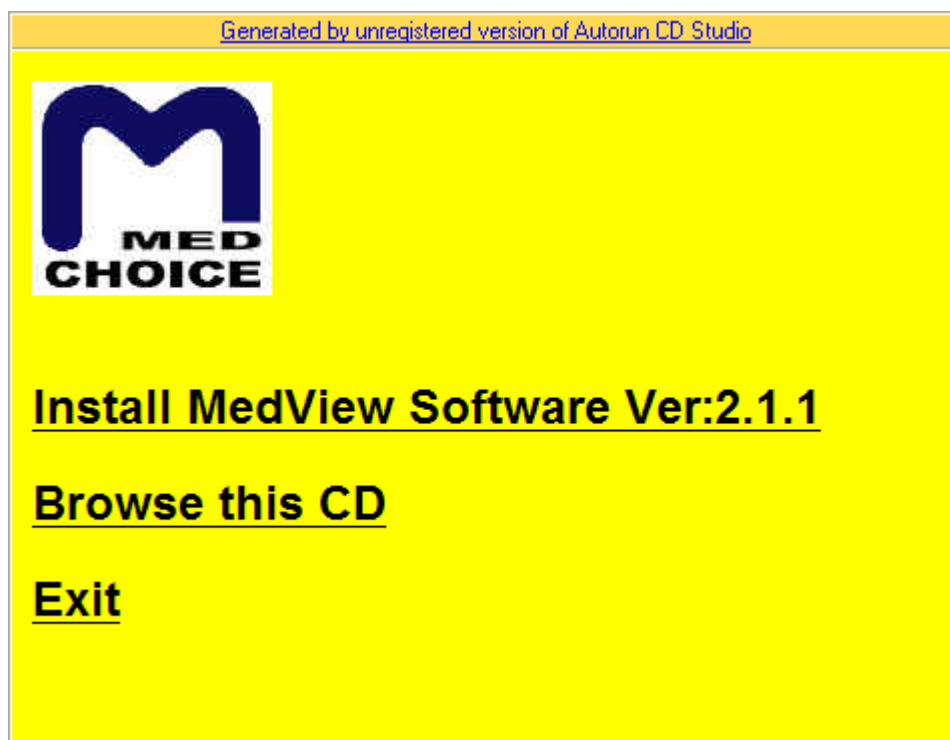

Figure 2-1
2.1.1 Put the attached installation CD into computer's CD driver, the CD will run automatically and then the following interface will appear, as shown in Figure 2-1.
2.1.2 Click the icon “Install MedView Software Ver2.1.1” in Figure 2-1, the following interface will appear. First, the USB Driver will be installed.